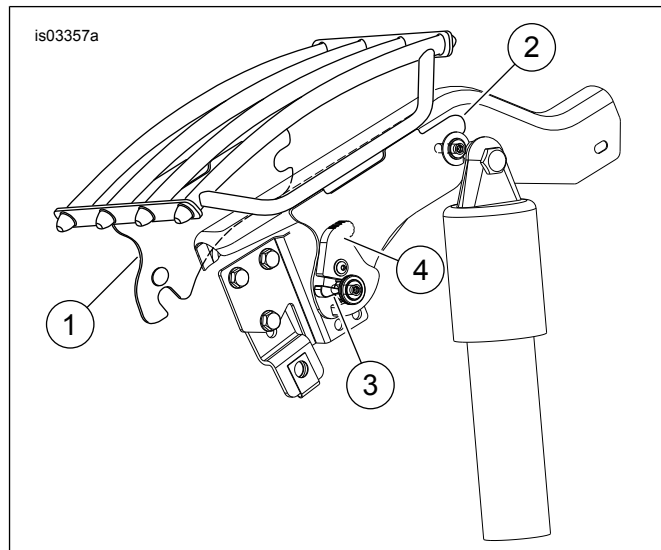
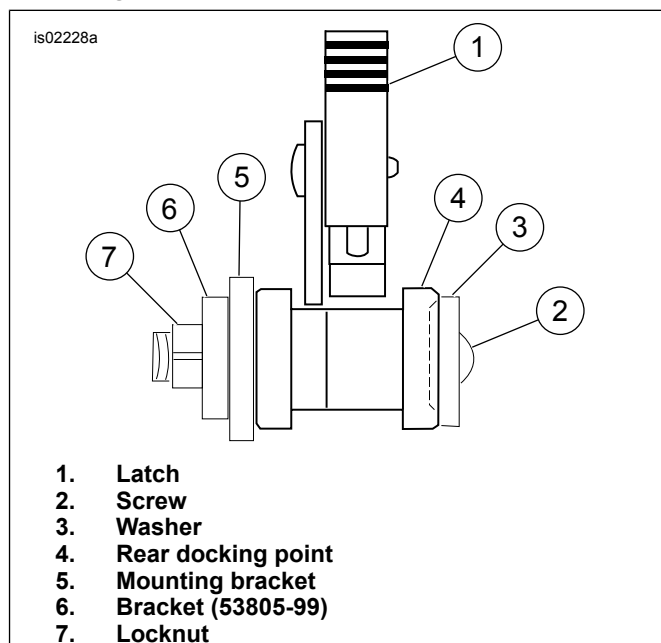

Figure 5. Installed Solo Rack and Hardware
Figure 6. Rear Docking Point Latch Alignment
- See Figure 5 and Figure 6. Position the latches over the rear docking points. Check the latches fit into the neck of the rear docking points as shown. This may require some gentle squeezing or spreading of the side plates.
- See Figure 5. To remove side plates, press the release button on each side. Pull the latch levers back. Carefully lift the rear of the side plates up. Pull the side plates out of the front docking points.